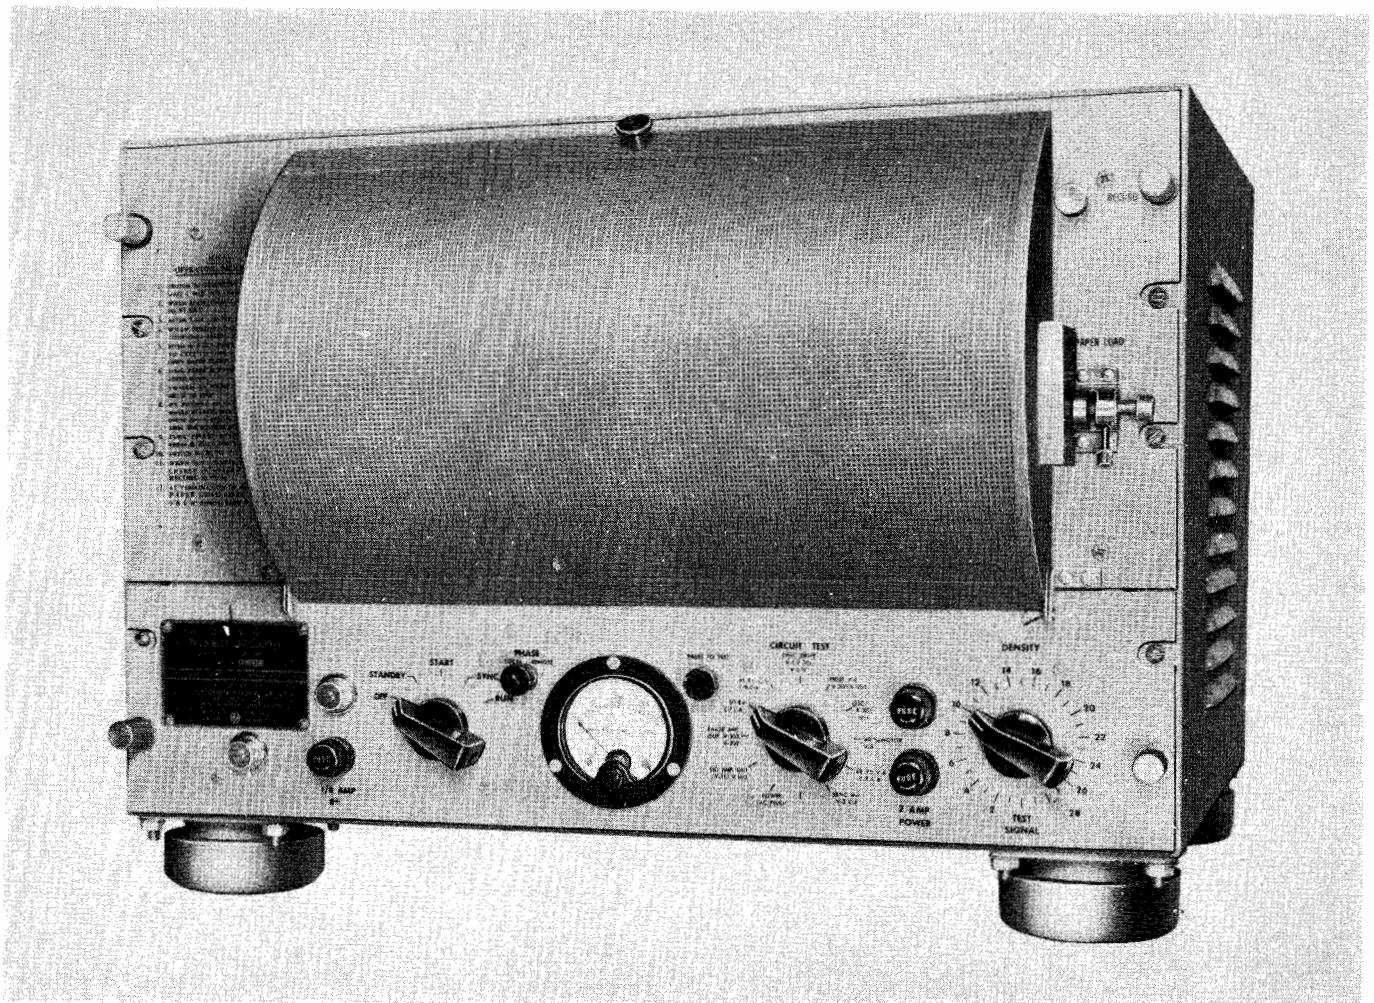

Figure 1-1. Facsimile Recorder RD-92A/UX
c. GENERAL DESCRIPTION OF FACSIMILE RECORDER RD-92A/UX.—Facsimile Recorder RD-92A/UX, figure 1-1, makes direct recordings of copy transmitted from a Facsimile Transceiver, TT-41()/TXC-1B, or equipment having the same transmission characteristics. The facsimile recorder is a self-contained unit mounted on a standard relay rack panel 12 $\frac{1}{4}$ inches high. The recorder may be installed in a 19-inch rack with rollers which permit it to be pulled in and out as a file cabinet drawer, enabling easy operation and rapid servicing.